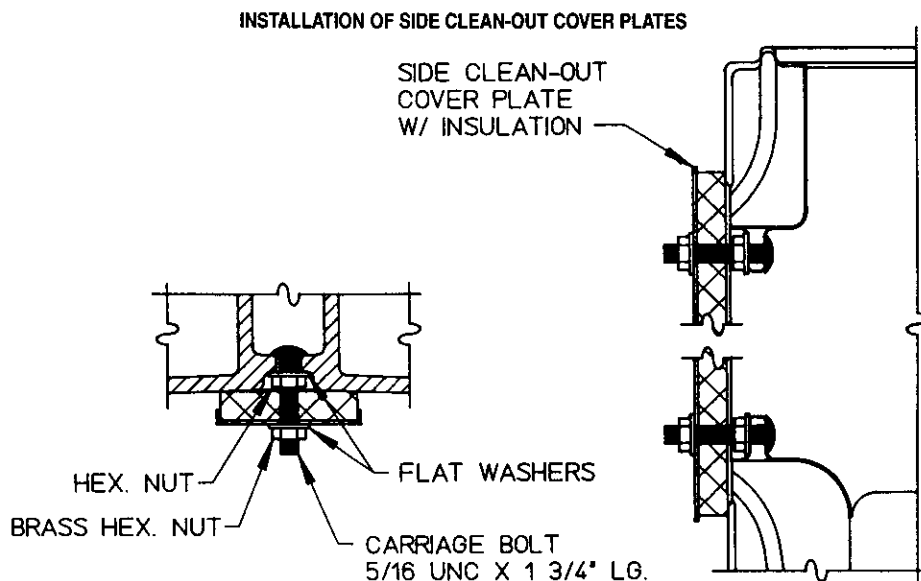

Figure 1
- 3 – Remove clean-out cover plates and insulation (25). Each clean-out cover plate is attached to the boiler by using two carriage bolts, nuts and washers (24). Install the carriage bolts into the notch at the top and bottom of each clean-out opening, then secure them with a flat washer and steel nut as shown in Figure 1 locking them into place. Press the clean-out plate with insulation over the protruding carriage bolts until the bolts punch through the insulation so flat washer and brass nut can be installed. Tighten down nuts snugly compressing the insulation to form a good seal around the clean-out opening.